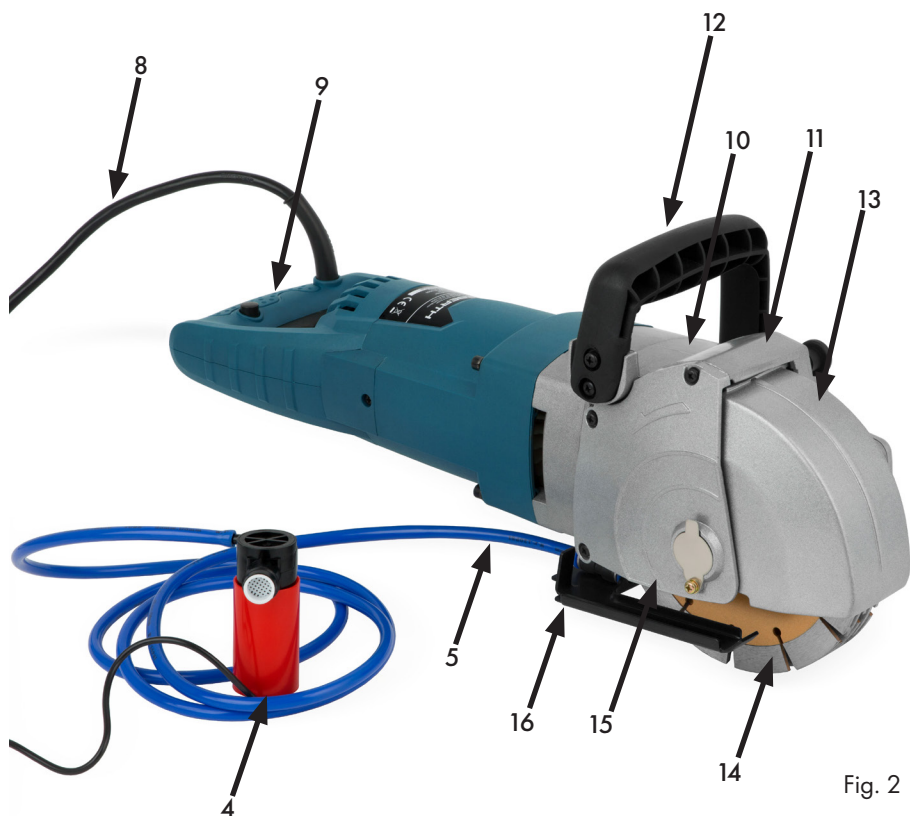

Fig. 2
Figure 2 shows the wall chaser as a whole with the water connection fitted. You will find the corresponding legend on the following page.
**Legend Figure 2**